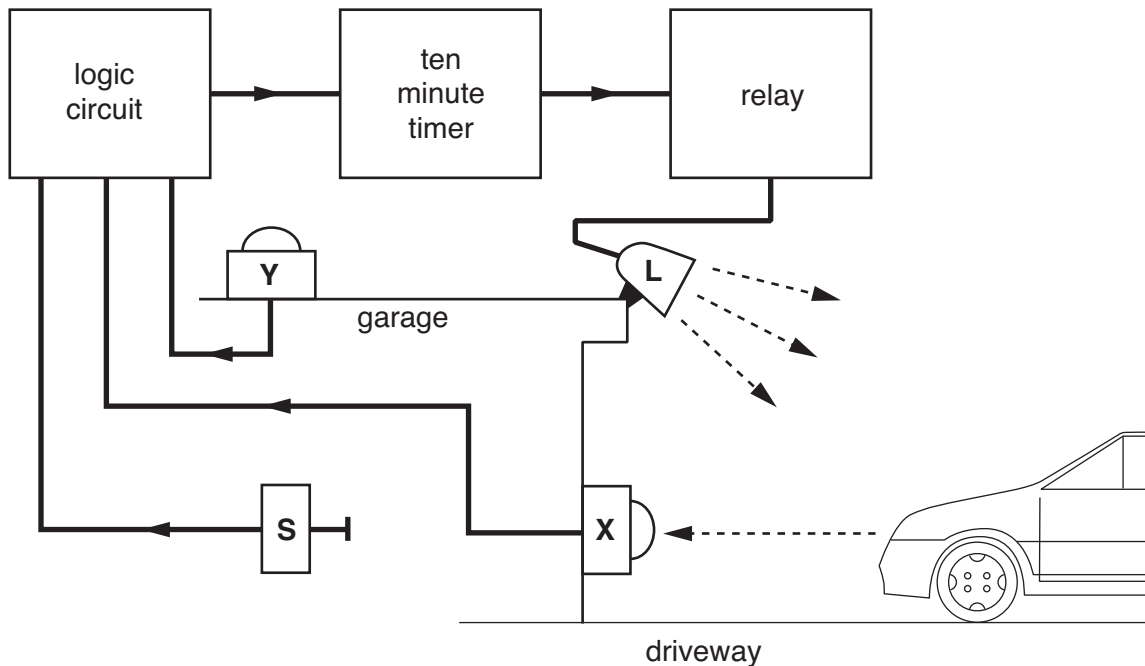

Fig. 2
- 2 Fig. 2 shows the outline design of a headlight-triggered driveway light system. At night, when car headlights illuminate a sensor, a timer is started and a floodlight, **L**, lights for ten minutes.